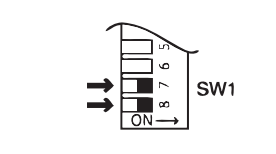

Fig. 5
- Set the unit to "Forced High" combustion by setting both No. 7 and No. 8 switches of the SW1 set to ON (Fig. 5). Ensure maximum water flow.